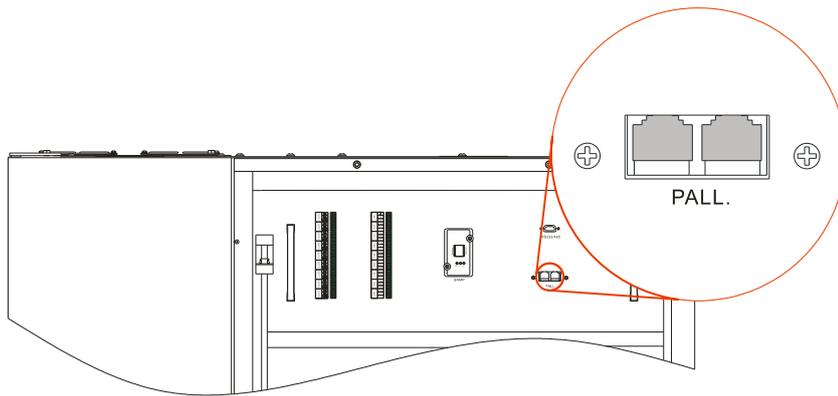

Figure3-49 Parallel port position
- Step 6 Connect the parallel port (as shown in Figure3-49) of each UPS in parallel system by parallel wires (shielded communication wire), and fasten the corresponding screws. (Here take the PS400KVA as an example.)